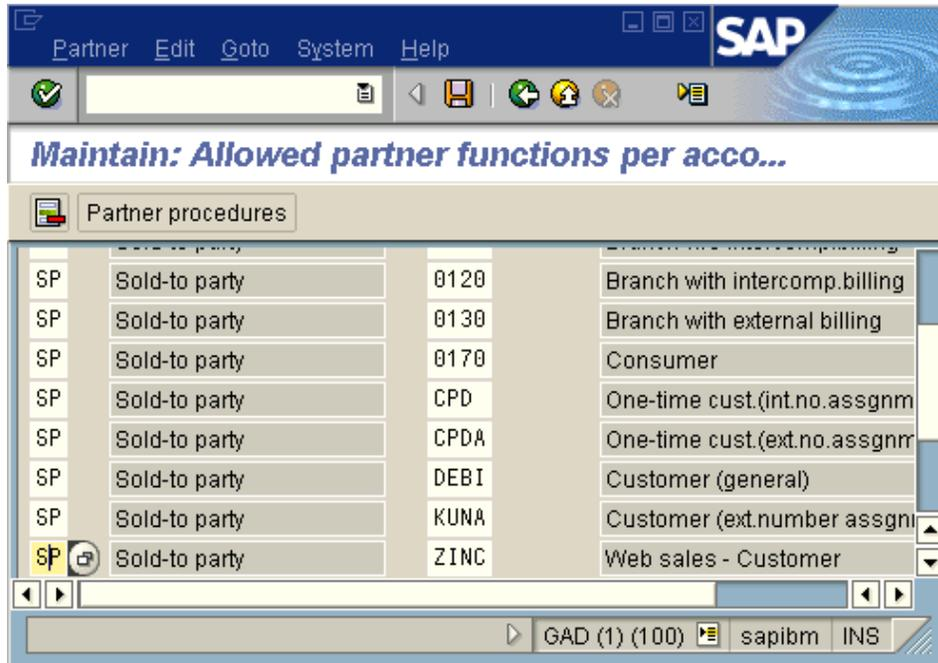

Figure 26: Assigning partner functions
6. Add **SP** (sold-to), **BP** (bill-to), **SH** (ship-to), and **PY** (payer) partner functions for the account group ZINC as shown in Figure 26.